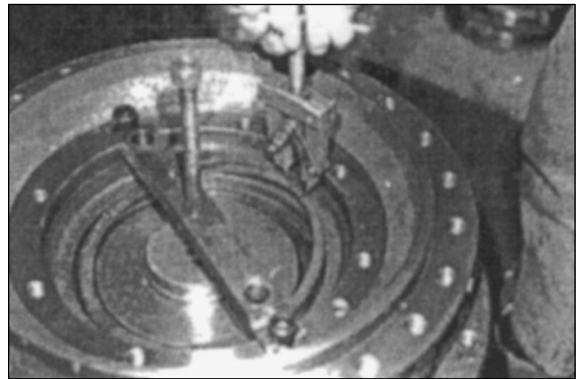

Figure 68
6. Remove circlip from hub groove using pliers. Figure 68.